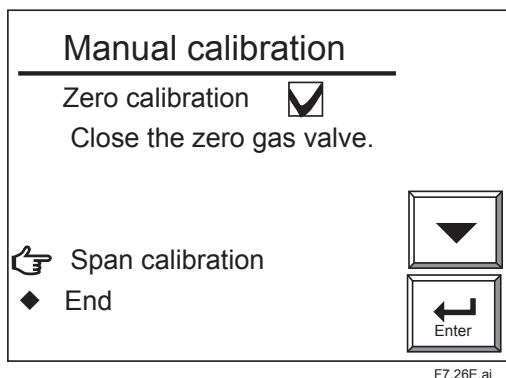

Figure 7.36 Zero Calibration Complete Display
- (9) After the measured value has stabilized, press the [Enter] key to display the "Zero calibration complete" display shown in Figure 7.36. At this point, the measured value is corrected to equal the zero gas concentration setting. Close the zero gas flow valve. The valve lock nut should be tightened completely so that the zero gas does not leak.
- (10) Select “End” in the display as shown in Figure 7.36. An oxygen concentration trend graph (with the oxygen concentration being measured) appears and HOLD TIME then flashes. This time is referred to as the output-stabilization time. If the HOLD TIME has been set with the output hold setting, the analog output remains held (refer to Section 8.2, Output Hold Setting, later in this manual). Manual calibration is completed when the preset hold (output stabilization) time elapses. This hold (output stabilization) time is set to 10 minutes at the factory before shipment. If you press the [Enter] or [Reject] key within the hold (output stabilization) time, manual calibration is then completed.